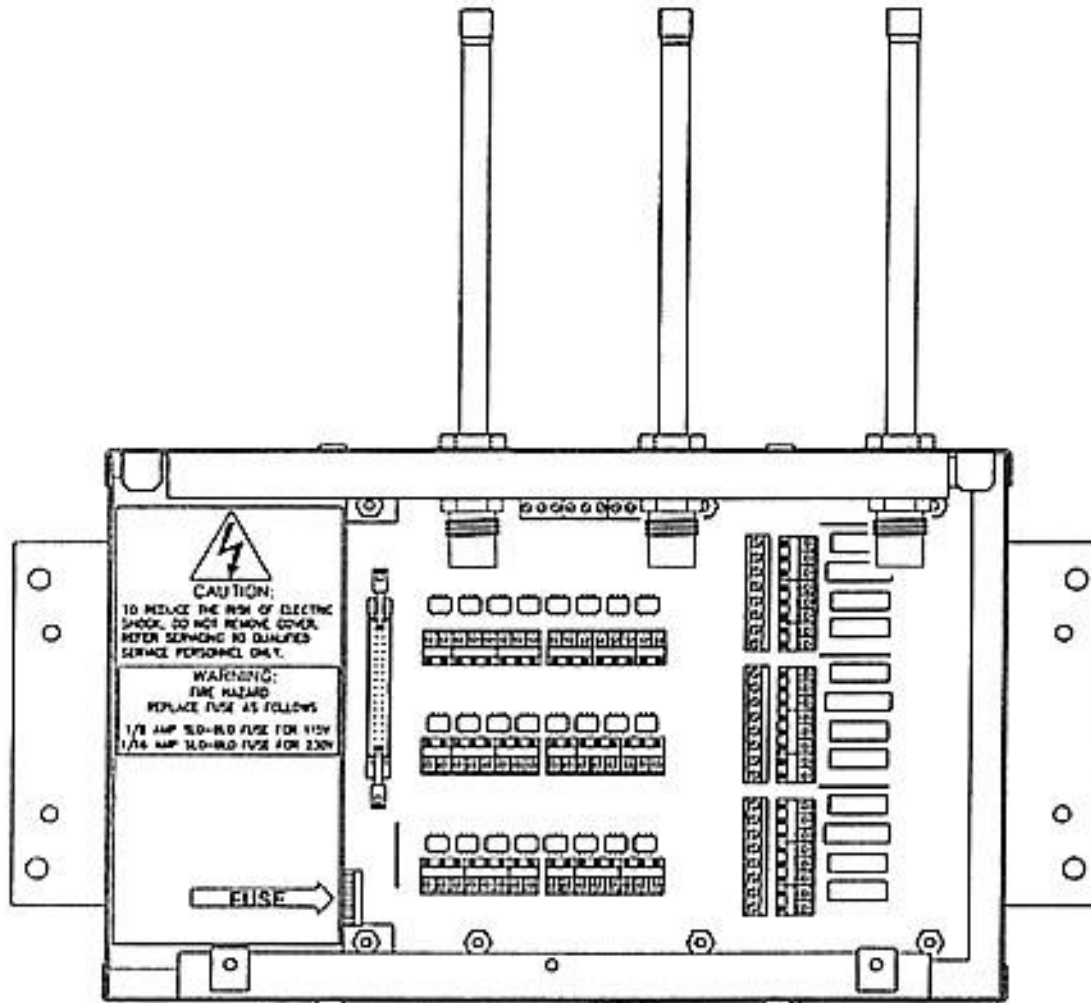

Figure 1 – Back Box with Pigtailed
1.3.1.1 The Back Box (see Figure 1) contains the electronic “Mother Board”, step-down transformers, system power supply, front panel connector, and terminal blocks to interface with external circuits.
1.3.1.2.1 Type 1(see Figure 1) contains copper pigtails to which an installer directly connects gas or vacuum.